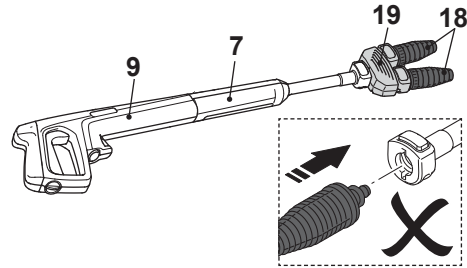

Fig. 7
1. Attach the extension lance (7) onto the spray gun (9) (Fig. 7).
2. Attach the rotary nozzle adaptor (19) onto the extension lance.
3. Attach both rotary nozzles (18) onto the rotary nozzle adaptor.